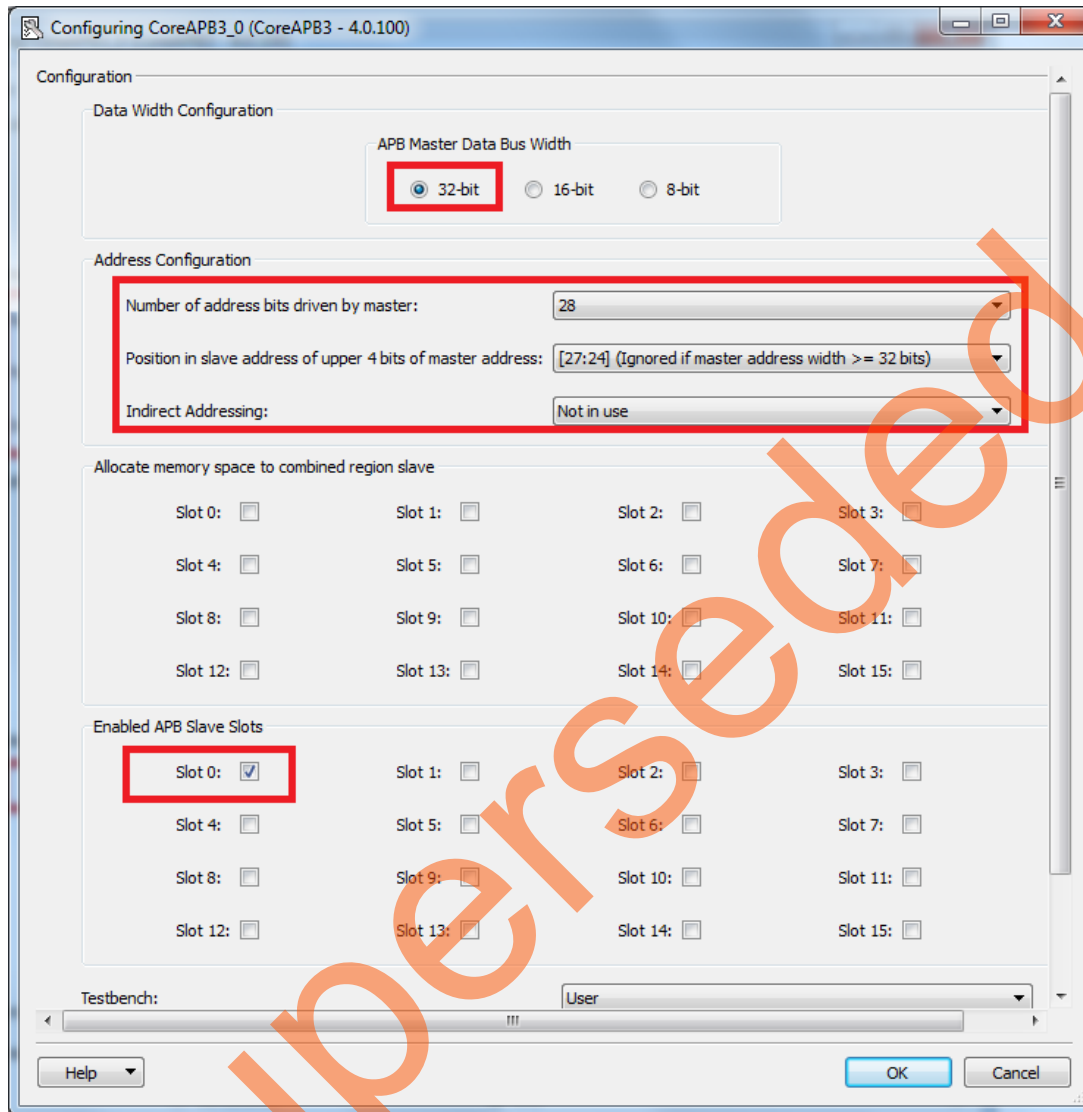

Figure 18 • Configuring CoreAPB3_0
5. Double-click CoreAPB3 to configure it. Figure 18 shows the **Configuring CoreAPB3_0** window.